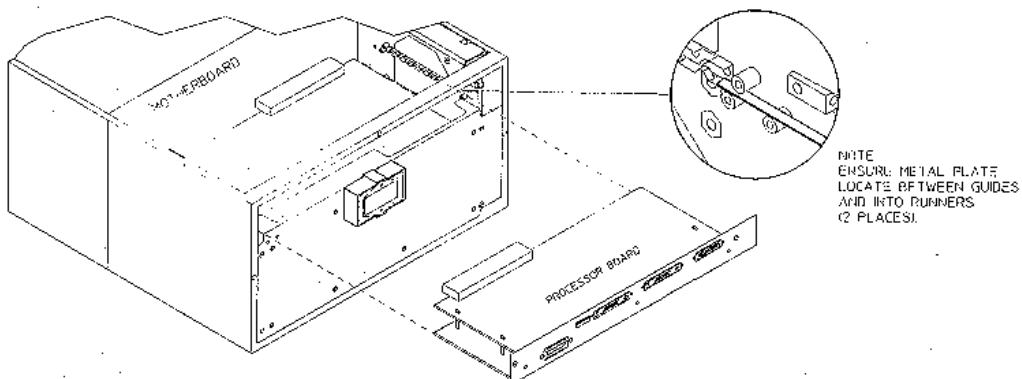

Figure 21
11. Re-install the A11 assembly as shown in FIG 21.